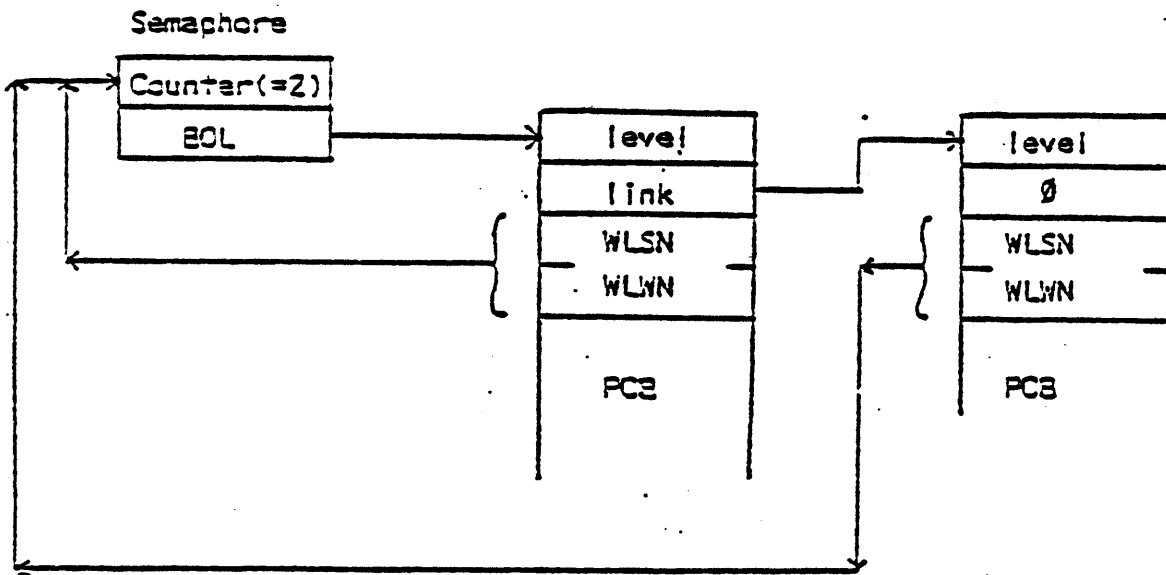

Figure 2.
Every PCB in the system will always be somewhere. If it is not on the ready list, then, by definition, it will be on a wait list. A wait list is defined by a 32-bit semaphore consisting of a 16-bit counter (C) and a 16-bit word number BQL pointer. Since the ready list and all PCB's reside in one segment (OWNERH), and only PCB's go onto wait lists, a segment number is not needed in the semaphore. However, semaphores themselves can be anywhere and, in general, are NOT in the PCB segment. The structure of a wait list is shown in Figure 2. Notice that the last block on the wait list contains a 0 link word. Notice also that the semaphore contains only a BQL pointer.